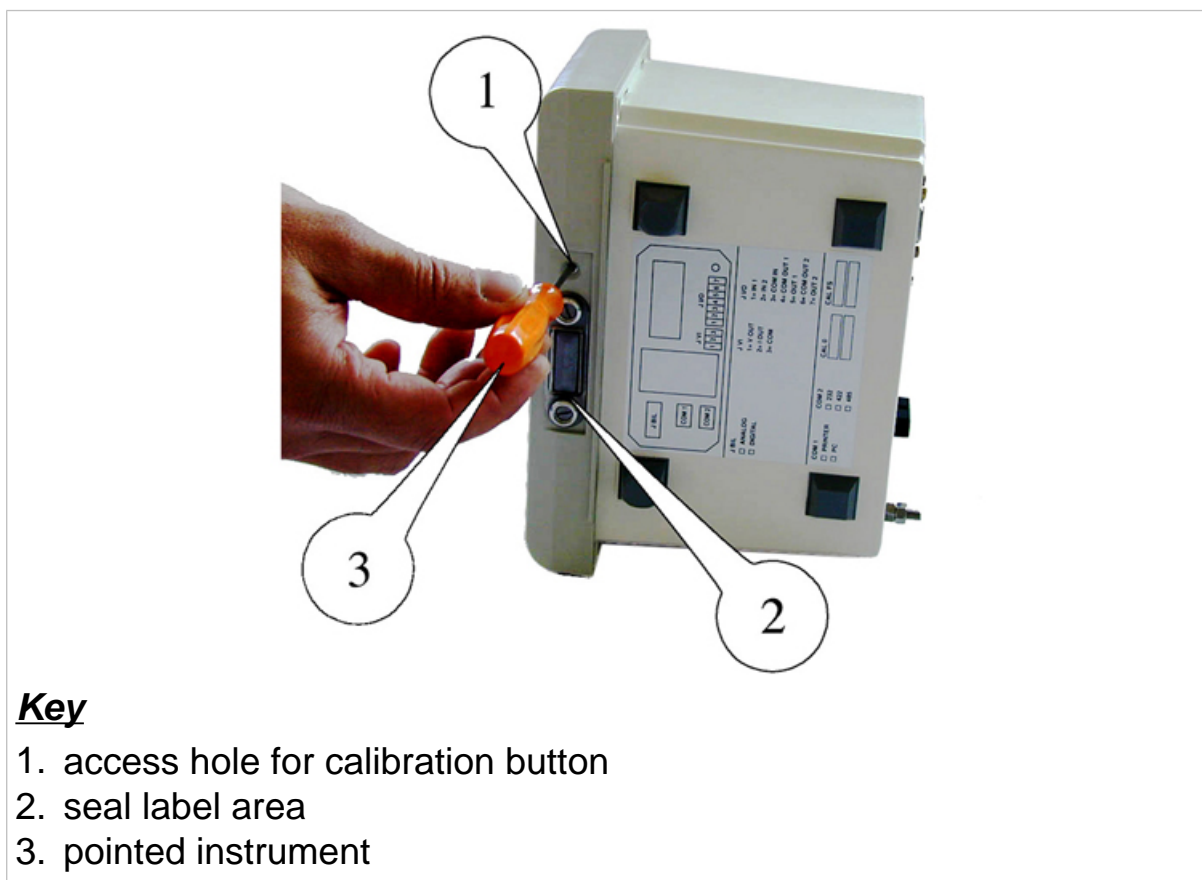

Figure 14.1 - Accessing the setup procedure by way of the calibration button (log0123.jpg)
- ✓ remove the seals from the terminal (lead or labels) (point 2 *fig. 14.1 on page 3-23*);
- ✓ press the calibration button using a non-metallic pointed instrument (point 3 *fig. 14.1 on page 3-23*) through the access hole (point 1 of *fig. 14.1 on page 3-23*);